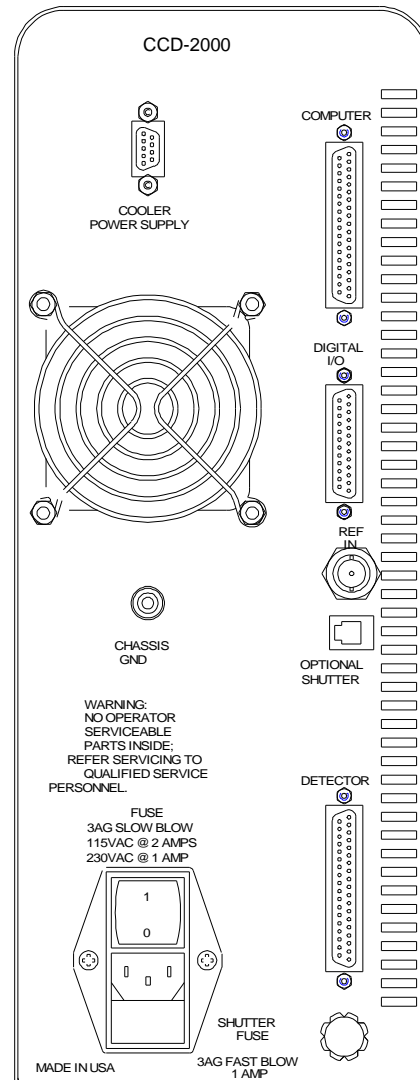

Figure 7: Detector Interface connections
- 1) Switch the power off at the rear panel power input module of the Detector Interface Unit. Turn off the computer as well. Using the 99603 twisted pair ribbon cable, connect the “computer” connector of the Interface Unit (see Figure 7) to the D-shell connector on the PC communications card installed in the computer.